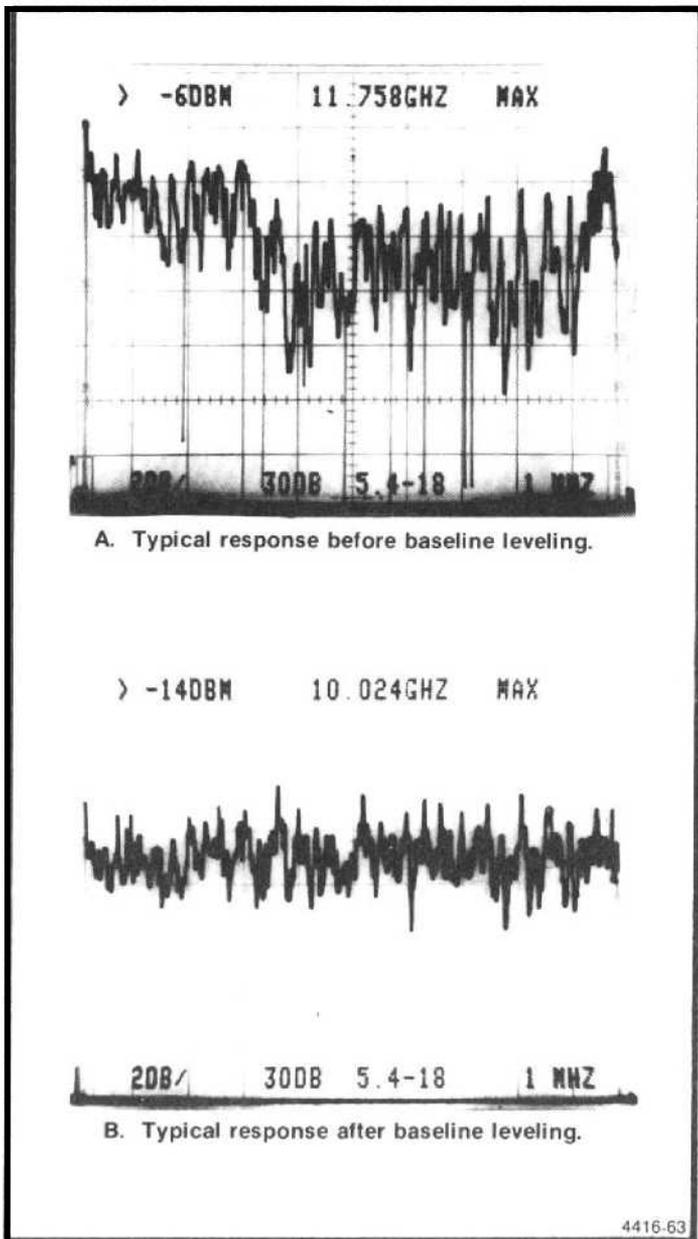

Figure 5-28. Typical response when adjusting baseline leveling.
o. Activate VIEW A and VIEW B then select a sweep time, on the 494/494P so the stored display is solid (no breaks in the digitized display, (Figure 5-28).